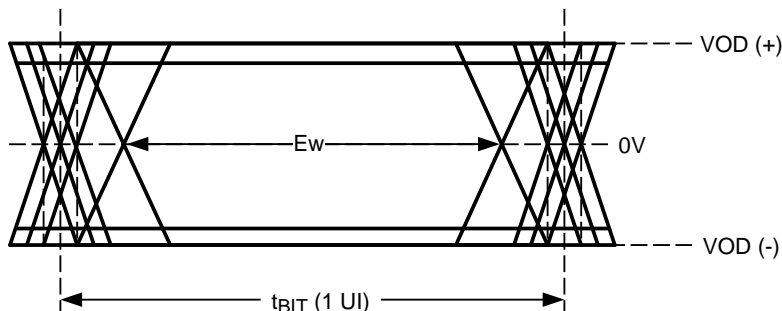

Figure 17. CMLOUT Output Driver
| $E_w$ Differential Output Eye Opening | $R_L = 100 \Omega$(Figure 17) | CMLOUTP,CMLOUTN | 0.45 |     |     | UI (1) |